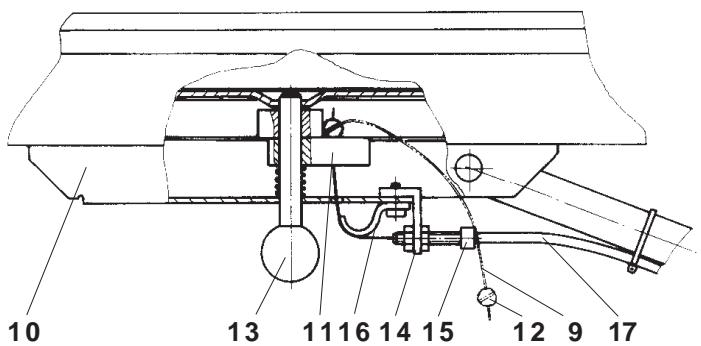
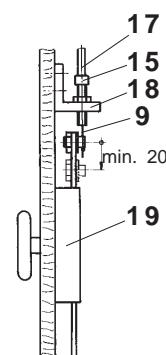

Fig. 6
Fig. 7
Manual unlocking mechanism ENTRA Fig. 6 and Fig. 7
- Insert the cable (9) through the hole in the sliding carriage (10) and in the guideway piece (11). Grab the cable end and mount a screw nipple (12).
- Withdraw the cable (9) until the red button (13) moves.
- Mount the angle (14) with screw (15) and the cable guide (16).
- Pull the cable (9) through the screw (15) and the Bowden cable covering (17) via the drawbar up to the door lock.
- Screw the guide angle (18) into the door.
- Connect the cable (9) to the door lock (19) according to Fig. 7 and adjust its tension.
- Uncouple the door on the sliding carriage (10) by pulling the red knob (13), Fig 6. Manually open and close the door. It should move easily and without hindrance.